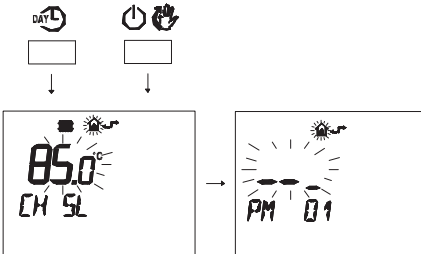

Fig. 7.37
- Press buttons **DAY** and **POWER** at the same time to enter transparent programming (Fig. 7.37)